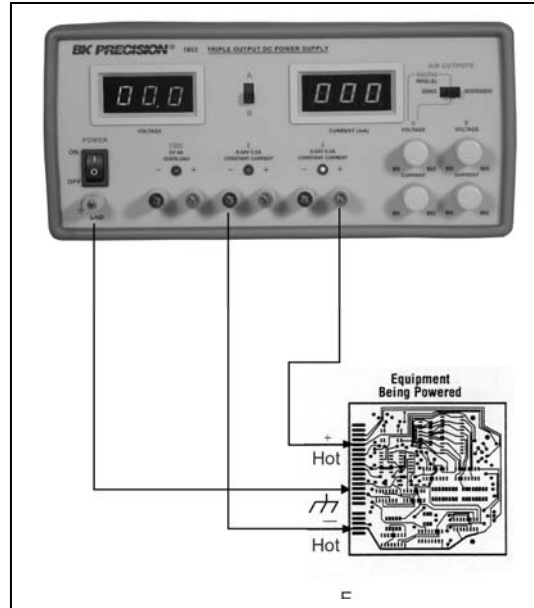

Figure 8. Series tracking (0-to-48 V) operation grounding possibilities (sheet 3 of 3).
8. Fig. 8 illustrates the grounding possibilities when the unit is used as a 0-to-48 \volt supply.